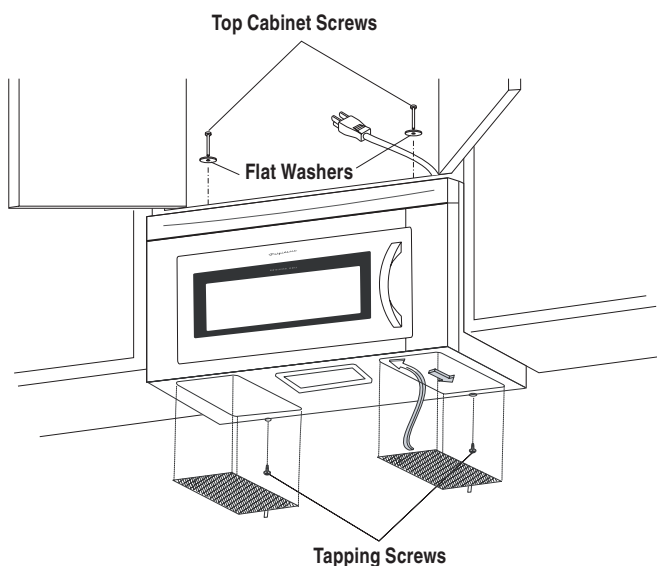

Figure 19
3. Use the two Top Cabinet Screws and two Flat Washers, supplied in the INSTALLATION HARDWARE, to attach the unit to the top cabinet. See Figure 19 on page 7.
4. Secure the bottom of the oven to the Mounting Plate by using two Tapping Screws 4 x 8 mm from the INSTALLATION HARDWARE. See Figure 19 on page 7.